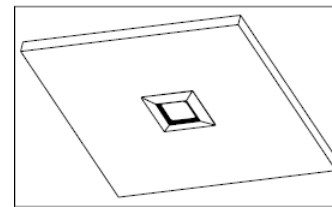

Figure 7
7. Turn the power back on. If the module doesn't illuminate within 5 seconds, turn power off, carefully remove the module and double check all wiring and replace. (Figure 7)